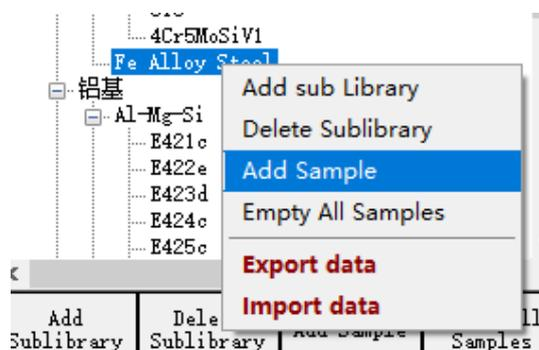

Figure 4-5 Add sample
Step 2 Find the corresponding category, such as “Fe Alloy Steel”, right-click and select “Add Sample”, as shown in Figure 4-5: